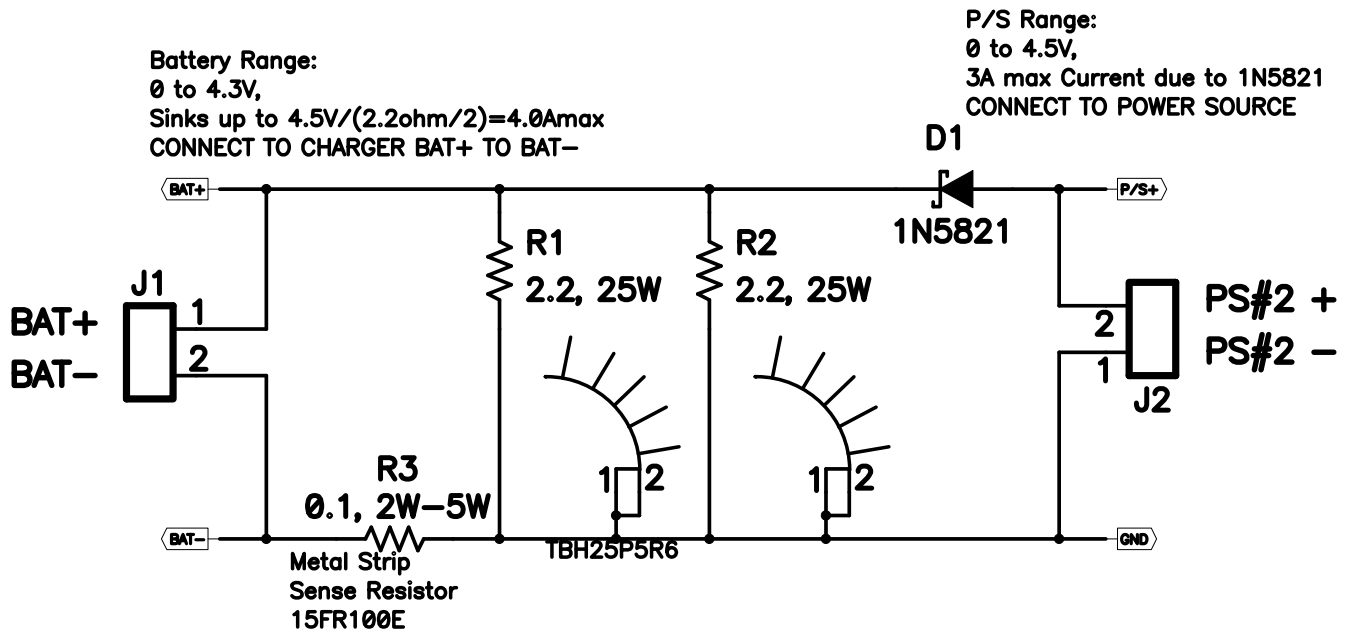
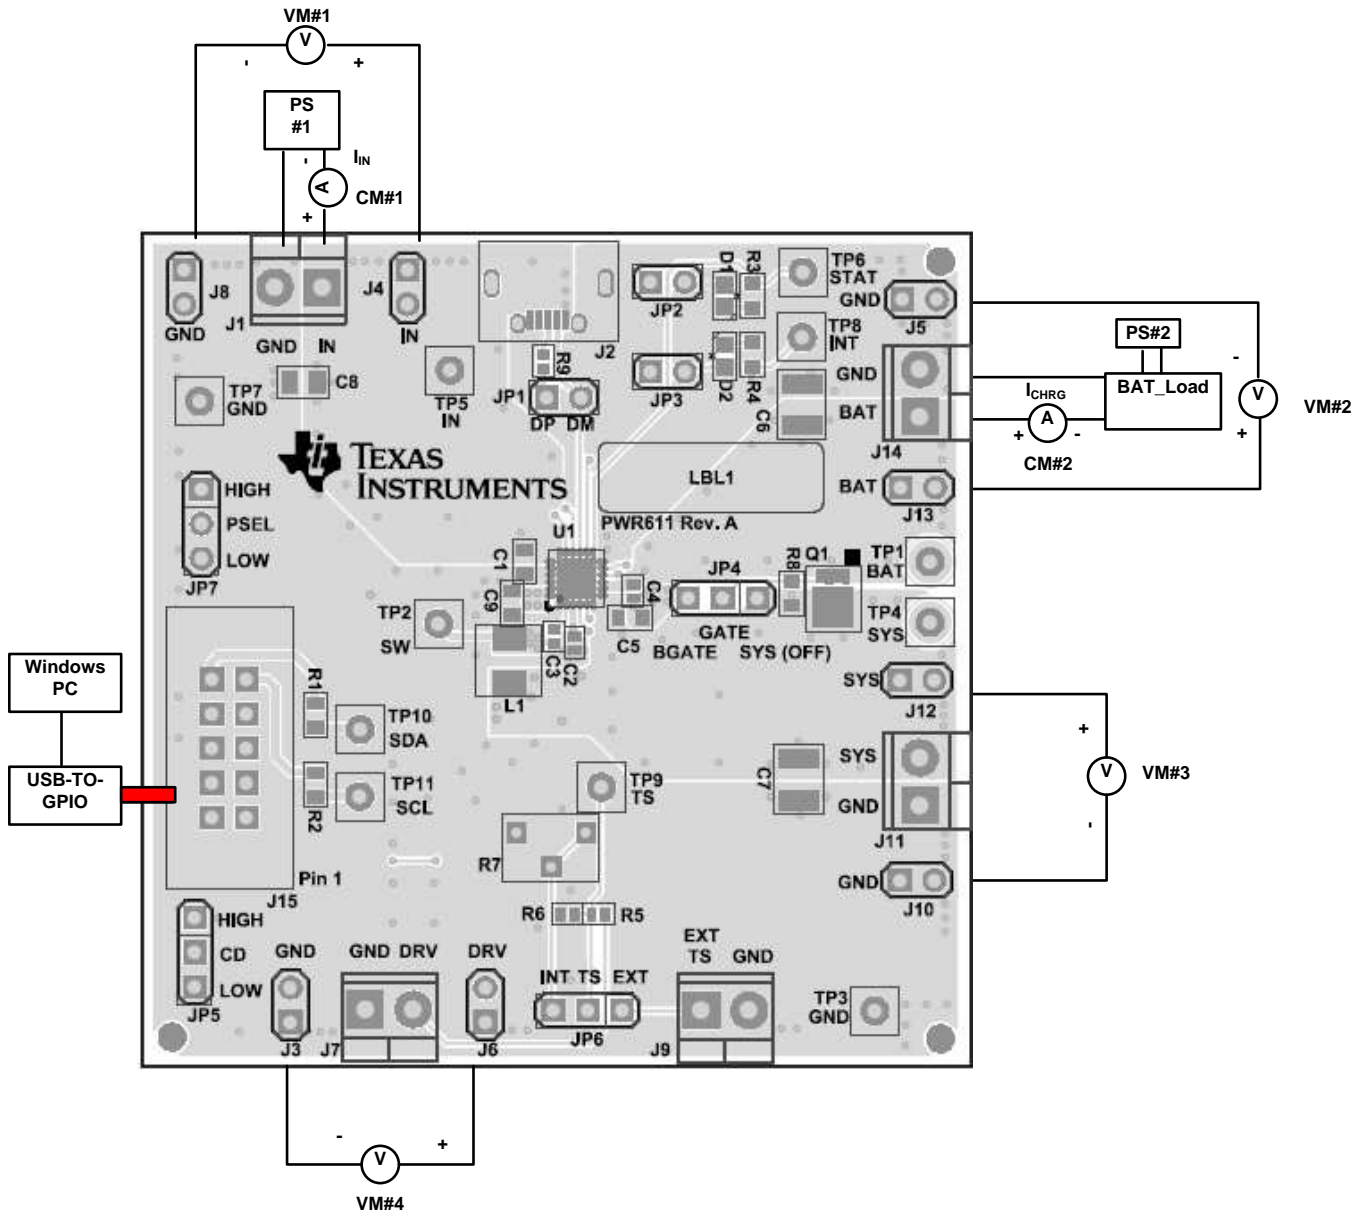

Figure 2. BAT_Load (PR1010) Schematic
Figure 4. Original Test Setup for bq24260, bq24261, bq24262 EVM
2. If not using a battery as the load, then power supply #2 (PS #2) capable of supplying up to 5 V at 5 A is required to power the circuit shown in Figure 2.
Testing with an actual battery is the best way to verify operation in the system. If a battery is not available, then a circuit similar to the one shown in Figure 2 can simulate a battery when connected to a power supply.
- After the preceding steps have been performed, the test setup for bq2426XEVM-611 is configured as shown in Figure 4.
- Connect the output of PS #1, with at least a 4-A current limit setting, in series with CM #1 to J1 as shown in Figure 4.
- Connect either a real single-cell lithium ion battery or battery simulator across J14 or J13/J5 (BAT, GND) with CM #2 in series as shown in Figure 4. If using a battery simulator like the one shown in Figure 2 and referred to as BAT_LOAD in Figure 4, configure PS #2 with at least 4-A current limit for 3.4 V.